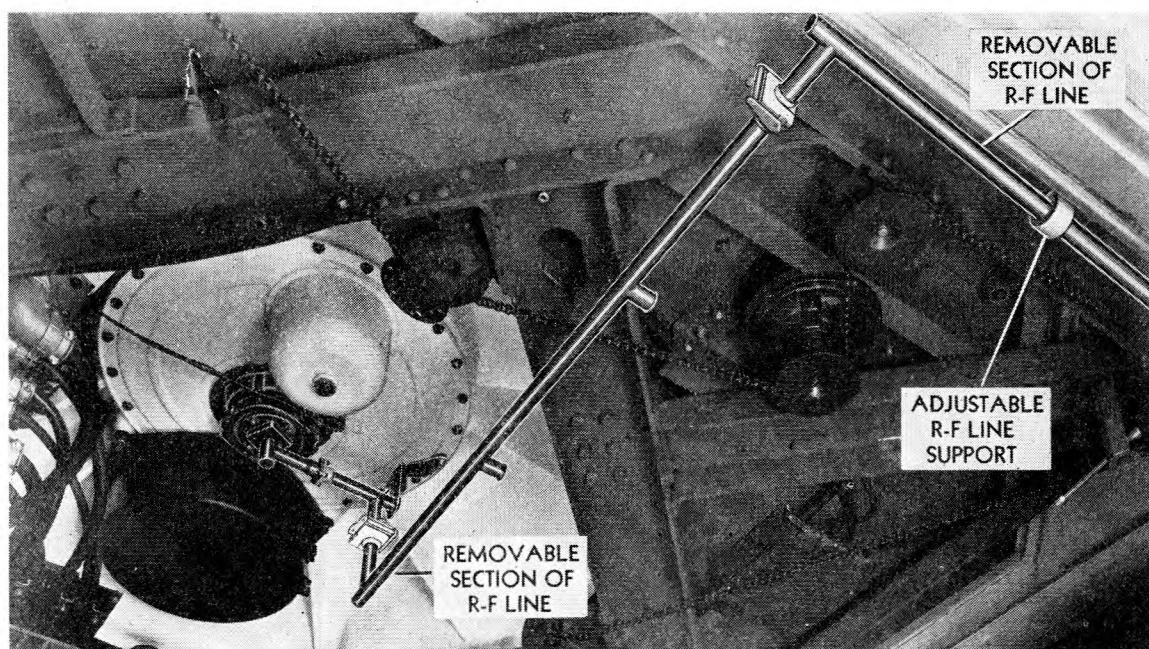

Fig. 12—View of underside of pedestal showing R.F. line installed
- (c) Place the shorter section into position so that the straight end joins the fixed line leading from the modulator unit, and let it rest in the adjustable support indicated in Fig. 12. See that the short section of the right-angle is pointing in the direction of the pedestal base. The general location of the shorter section of line, when put in place, is shown in Fig. 13.
- (e) Make certain that all three junctions in the line are tight, and then fasten the connectors. Care must be taken to avoid twisting or bending the line, and forcing the joints together until they are properly seated. The complete installation is shown in Fig. 12.